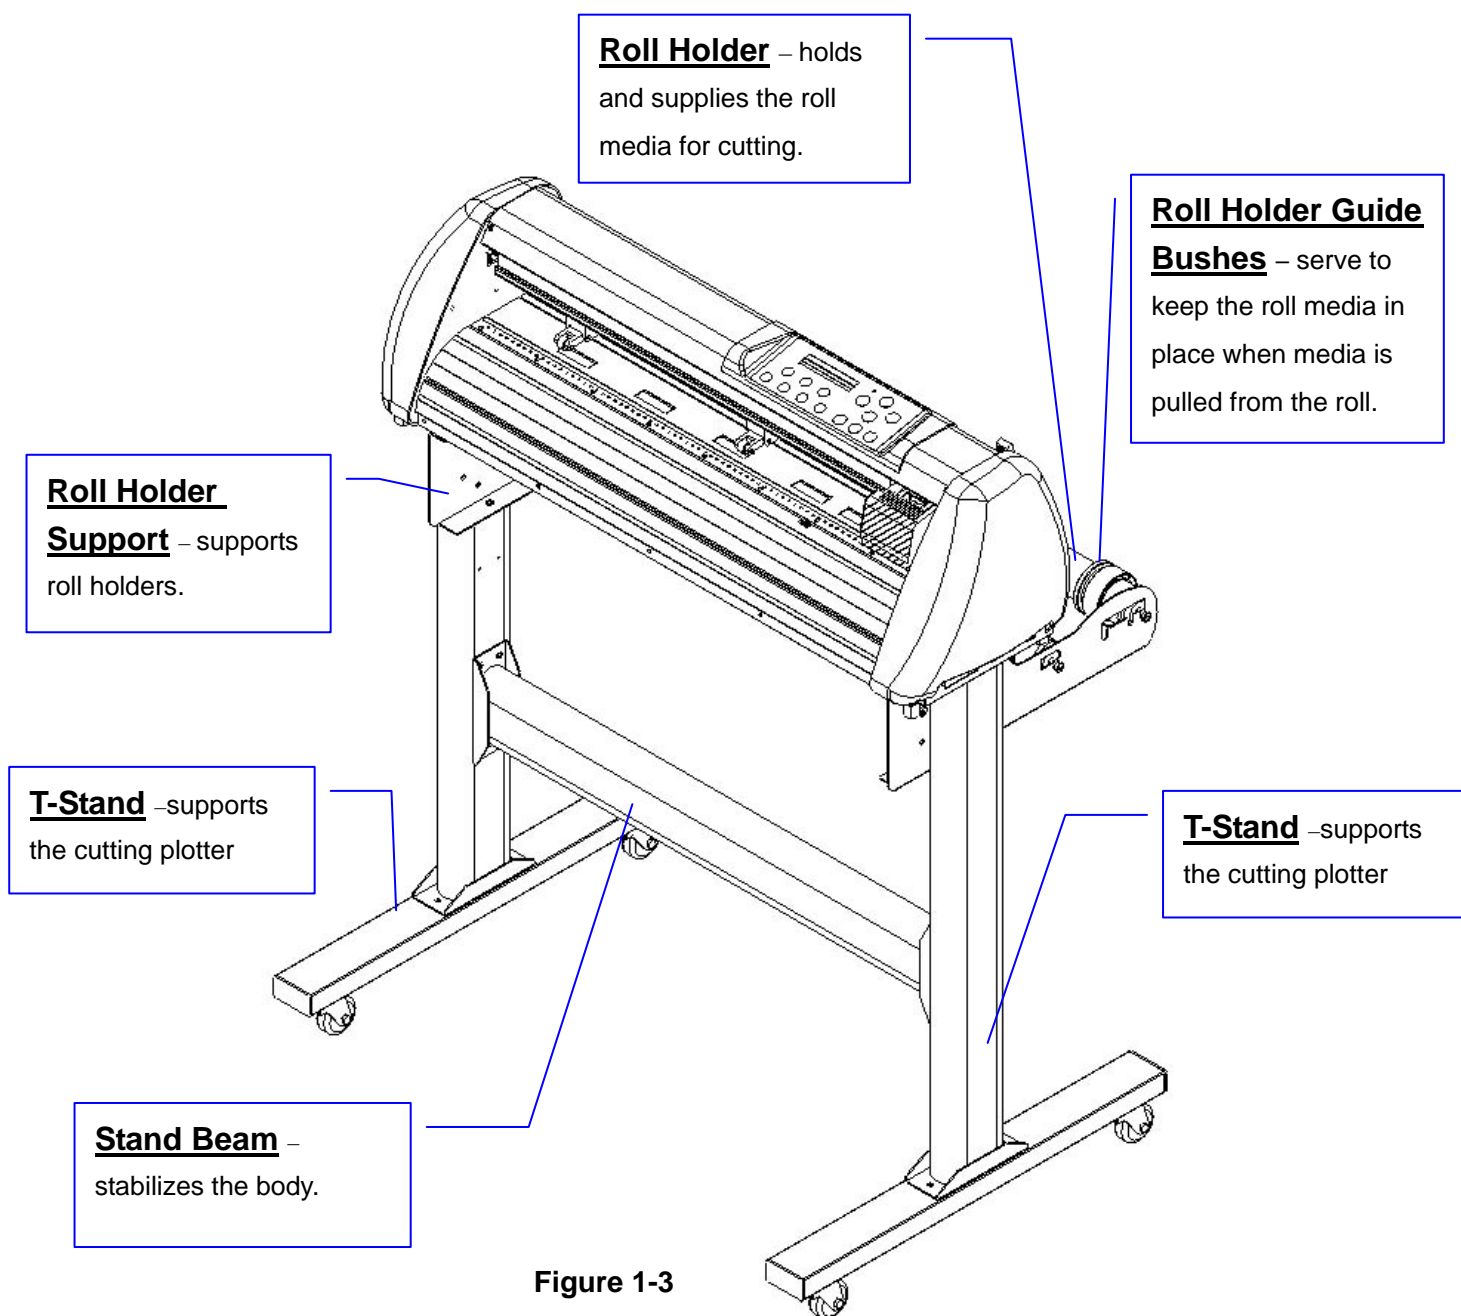

Figure 1-3
1.4.3 The Whole View (Figure 1-3)